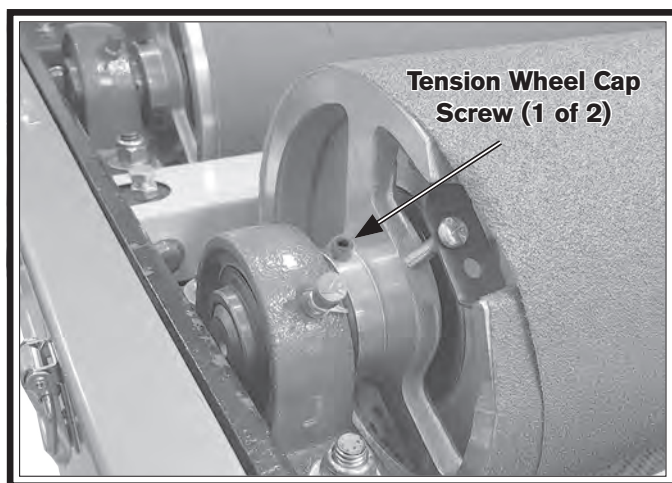

Figure 25. Location of tension wheel cap screw.
— If sandpaper does not line up correctly with spring clip at trailing end, loosen (2) $\frac{1}{4}$ "-20 x $\frac{1}{2}$ " cap screws and rotate left tension wheel as necessary (see **Figure 25**); tighten cap screws, then secure end of sandpaper.